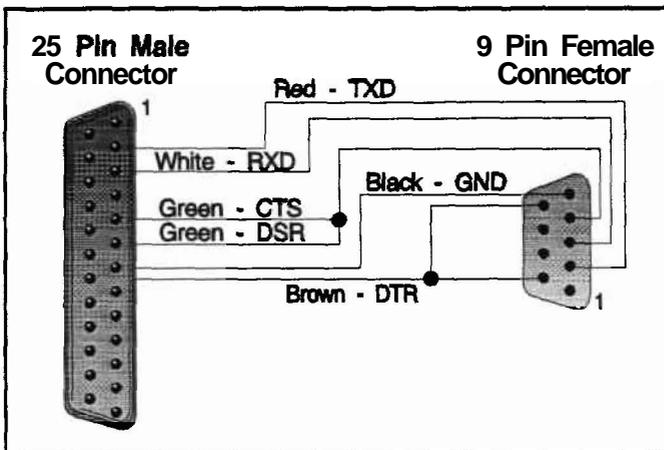

Figure 12 Printer Cable Pinouts
1. If you are not using a Snapshot printer cable, ensure the RS232 cable you are using is configured correctly. See Figure 12.